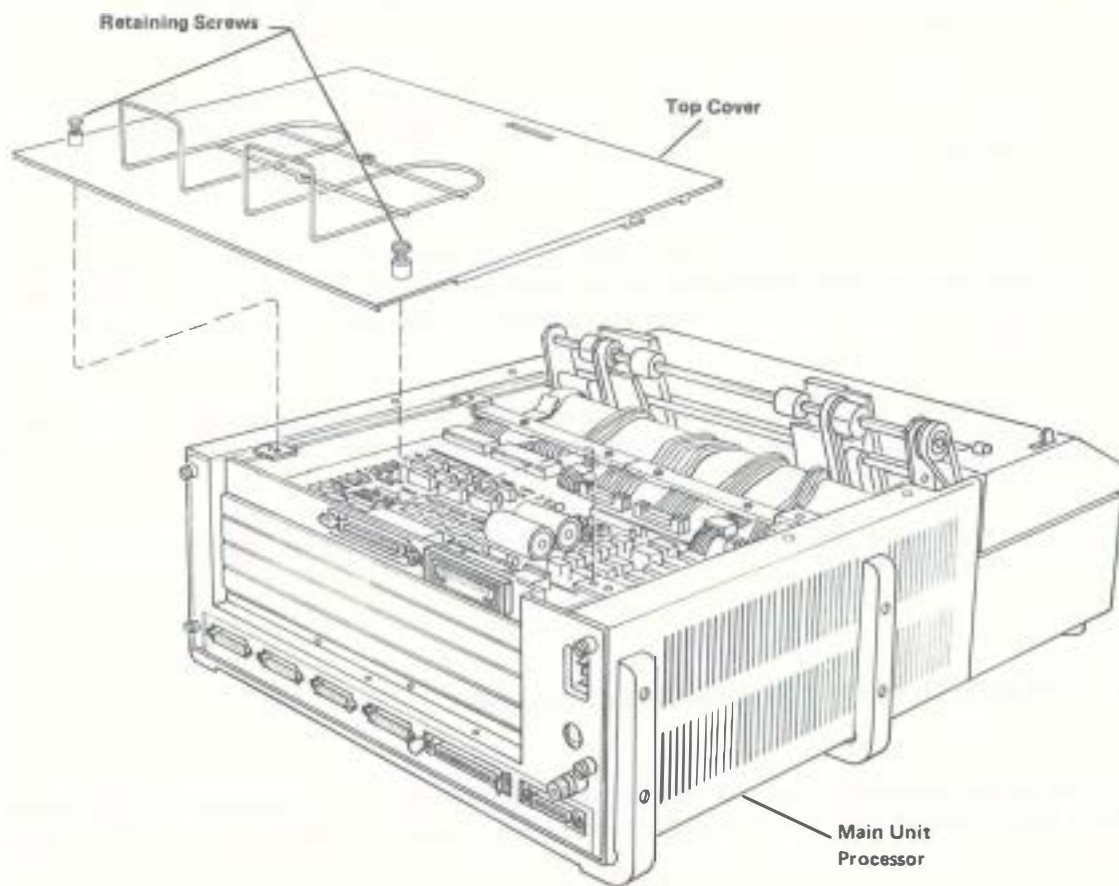

Figure 5-4. Processor Unit Top Cover
9. Remove the processor unit top cover by loosening the two retaining screws and sliding the cover toward the rear of the processor unit. See Figure 5-4. Lift the cover out of your way.
1. Replace the processor unit top cover by setting the cover on the unit and sliding it toward the front of the system. Secure the cover in place by tightening the two retaining screws on top of the cover. See Figure 5-4.